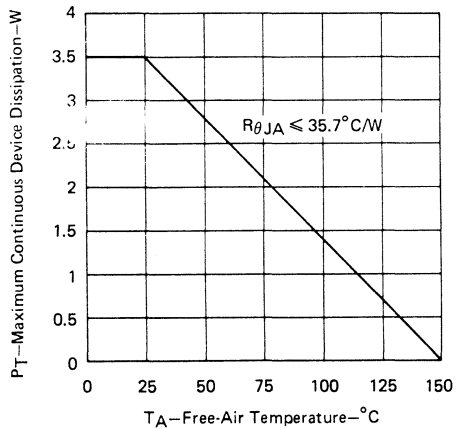

FIGURE 10
3. Derate linearly to 150°C case temperature at the rate of 0.64 W/°C or refer to Dissipation Derating Curve, Figure 10.